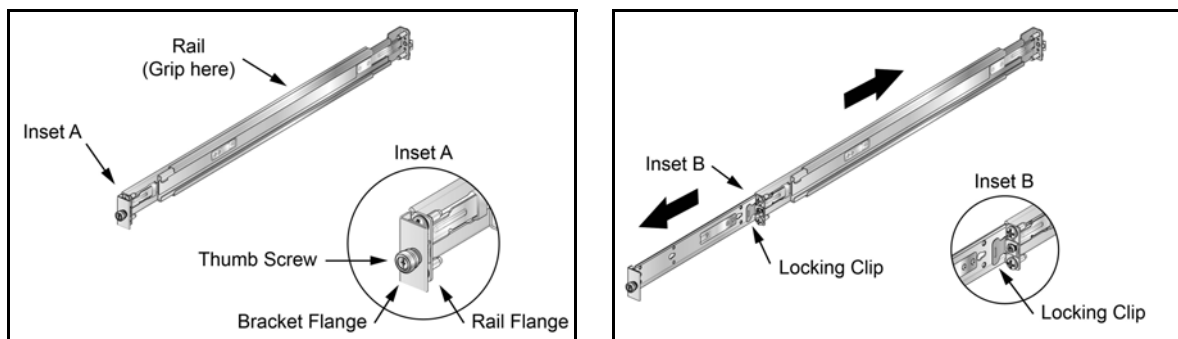

Figure 9: Extracting the Bracket-Rail Assembly
Step 1 Grip the rail with your right hand, as shown in Figure 9-Left. Pull the bracket flange away from the rail flange with your left hand until the bracket clip catches on the rail (Figure 9-Right).
Step 2 While pressing the locking clip on the bracket (Figure 9-Right), resume pulling the bracket from the rail until the separation is complete.